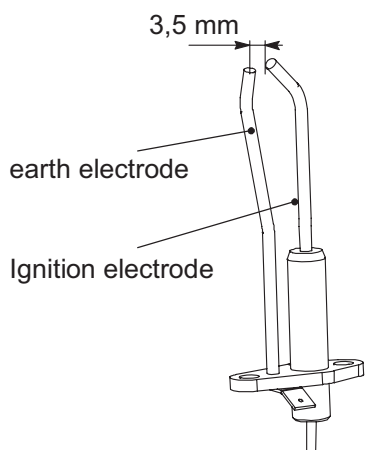
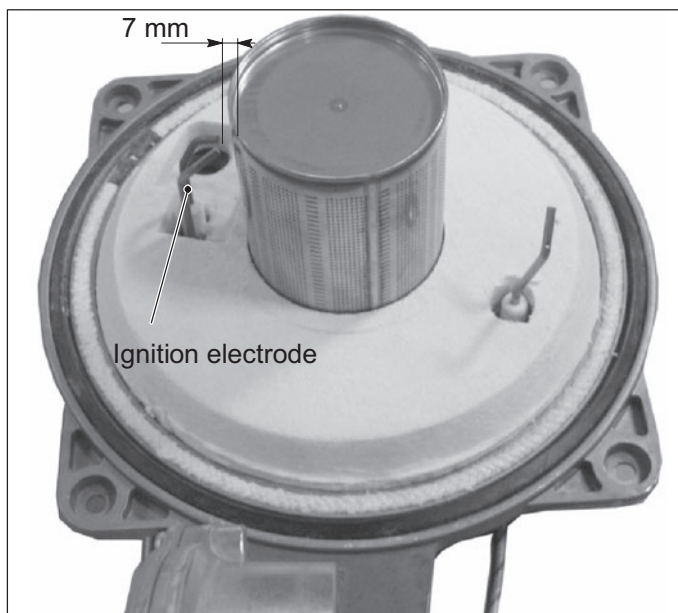

Figure 18.7
Figure 18.8
- 2 Check for the correct distance between the metallic edges of the ignition electrode (see Figure 18.7 - Figure 18.8).